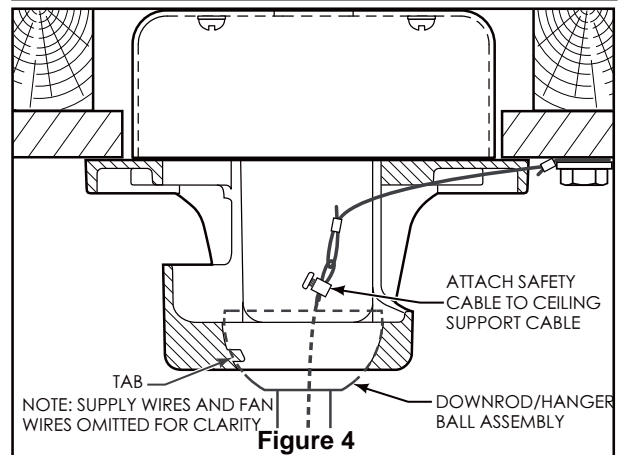

Figure 4
4. Carefully lift the fan and seat the downrod/hanger ball assembly on the hanger bracket that was just attached to the ceiling joist. Be sure the groove in the ball is lined up with tab on the hanger bracket. (Figure 4)
5. Attach the safety cable to ceiling support cable. Slide cable clamp onto safety cable (from fan). Place the end of cable through the loop of ceiling support cable. Pull as much cable through loop as possible. Feed end of cable into clamp hole and firmly tighten screw (Figure 4). Cut off excess safety cable.
3. After connections have been made, turn leads upward and carefully push leads into the outlet box, with the white and green leads to one side of the box and the black leads to the other side. (Figure 4)
Connect the 2 single pin connectors from the LED assembly to the 2 single pin connectors from motor assembly. (Figure 4)
- 4.** To set the remote code with a small screwdriver or ball point pen (neither included), slide dip switches firmly up or down. (Figure 4)